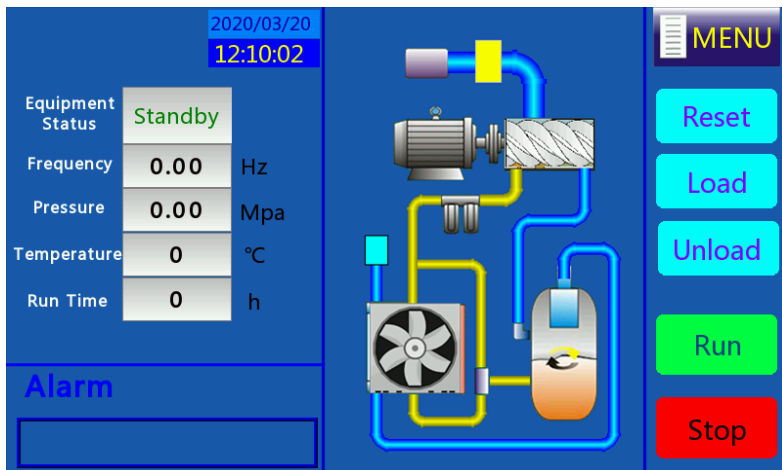

Figure 4-3 Working interface
3. Click **Enter IN** to enter the working environment interface, as shown in Figure 4-3.